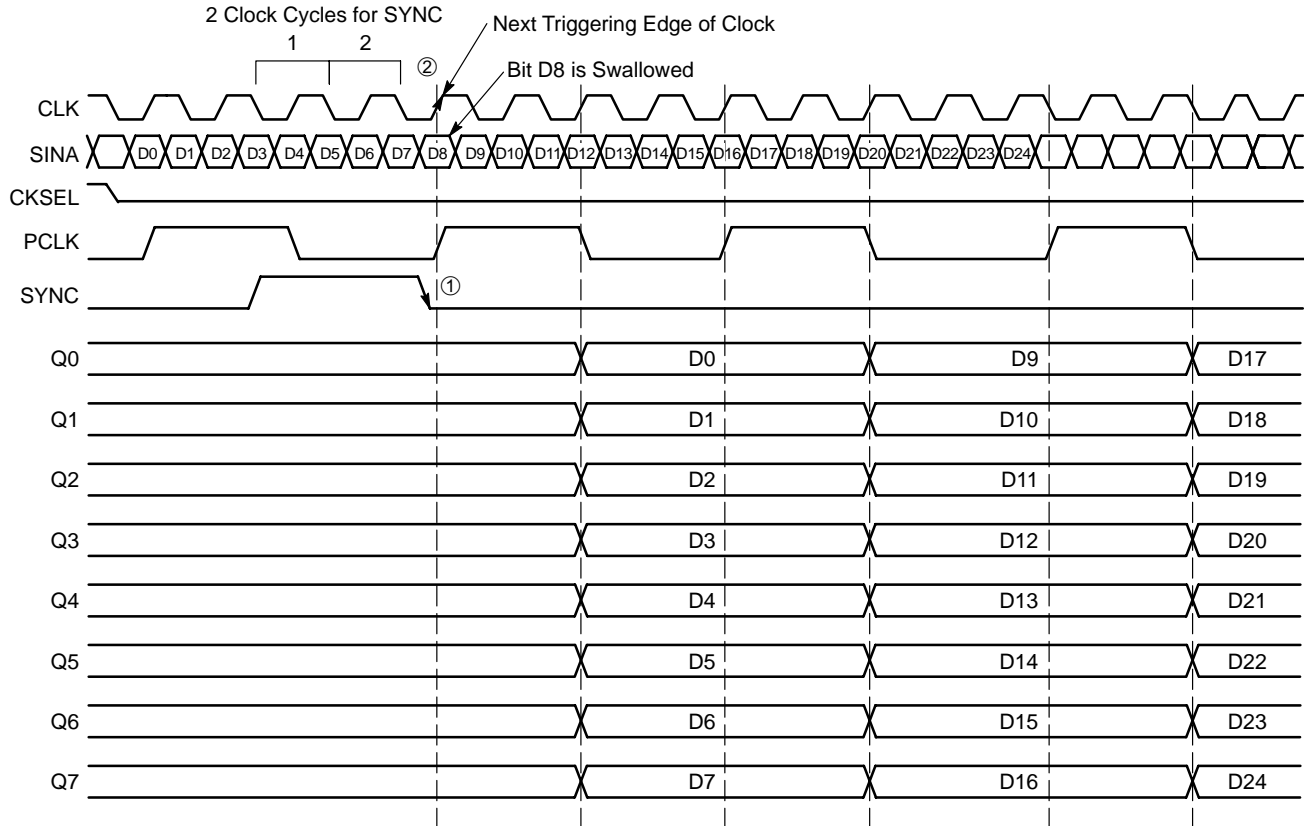
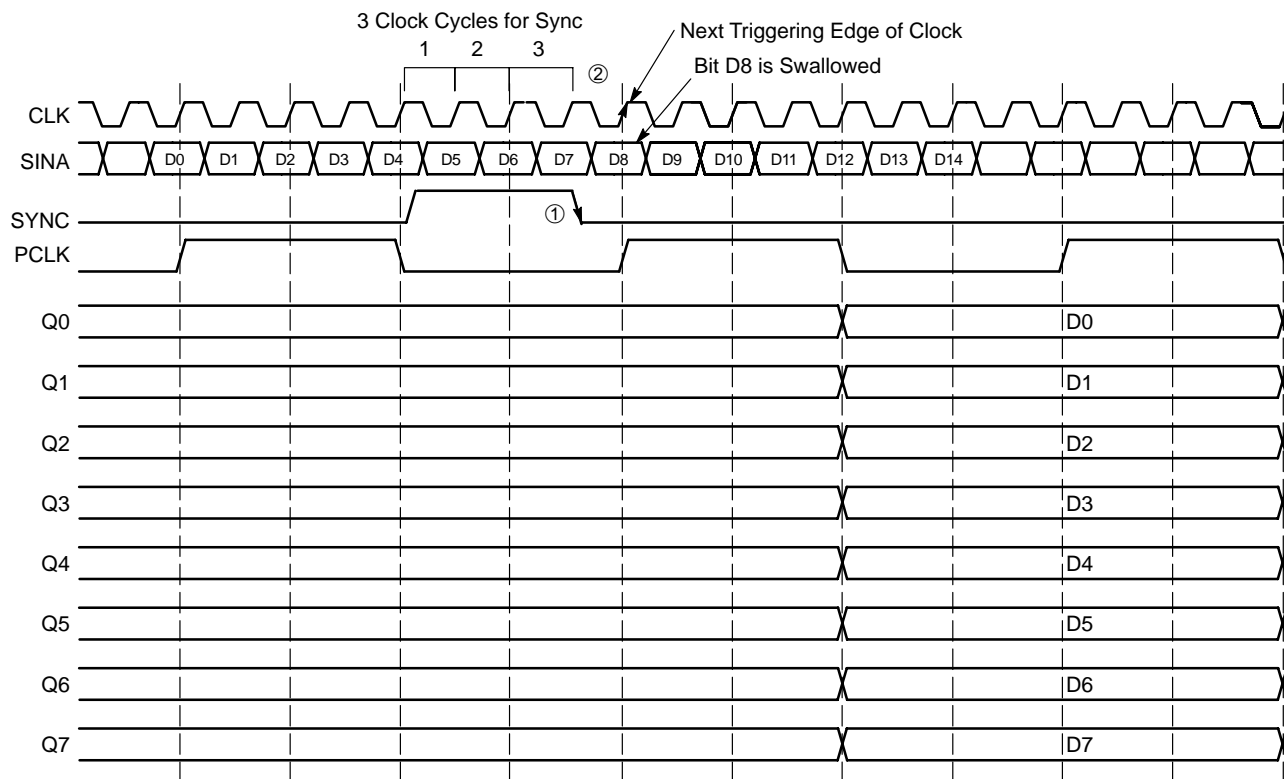

Figure 9. Timing Diagram A. 1:8 Serial to Parallel Conversion with SYNC Pulse at CKSEL LOW
Figure 10. Timing Diagram A. 1:8 Serial to Parallel Conversion with SYNC Pulse at CKSEL HIGH
To allow the user to synchronize the output byte data correctly, the start bit for conversion can be moved using the SYNC input pin (pin 2). Asynchronously asserting the SYNC pin will force the internal clock to swallow a clock pulse, effectively shifting a bit from the Q_n to the Q_{n-1} output as shown in Figure 9 and Figure 10. For CKSEL LOW, a single pulse applied asynchronously for two consecutive
clock cycles shifts the start bit for conversion from Q_n to Q_{n-1} . The bit is swallowed following the two clock cycle pulse width of SYNC① on the next triggering edge of clock② (either on the rising or the falling edge of the clock). Each additional shift requires an additional pulse to be applied to the SYNC pin. (See Figure 9)
triggering edge of clock^② (on the rising edge of the clock only). Each additional shift requires an additional pulse to be applied to the SYNC pin. (See Figure 10)